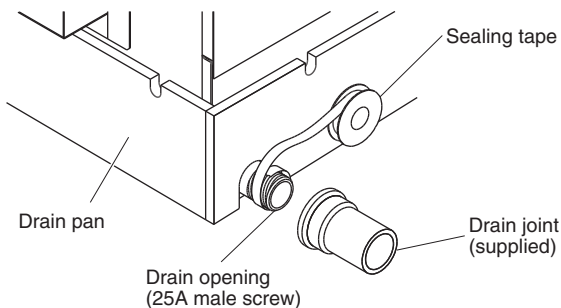

Fig. 3-79
- (1) Prepare standard hard PVC pipe (O.D. 32 mm) for the drain and use the supplied drain socket to prevent water leaks. The PVC pipe must be purchased separately. When doing this, apply adhesive for the PVC pipe at the connection point.
- (2) If connecting a drain joint (supplied) to the threaded drain port, first wrap the drain port threads with sealing tape, then connect the joint. (Fig. 3-79)